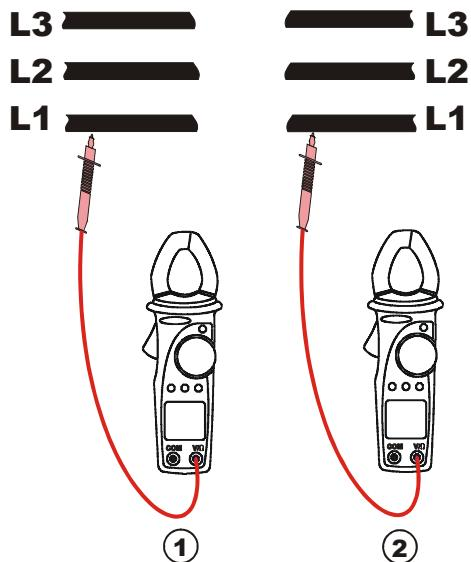
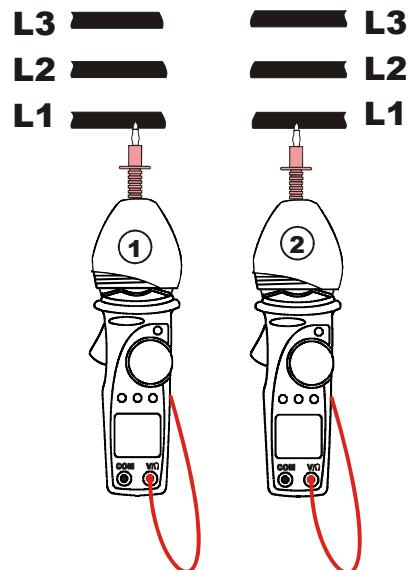

Fig. 14: phase detection
Fig. 15: phase detection with rubber cup
4. Connect the red terminal to the L1 phase conductor (see Fig. 14, 1st measurement). If necessary use the rubber cup to insert red test lead (see Fig. 15, 1st measurement).
9. Connect the test lead to the second L1 cable (see Fig. 14 2nd measurement or Fig. 15, 2nd measurement).